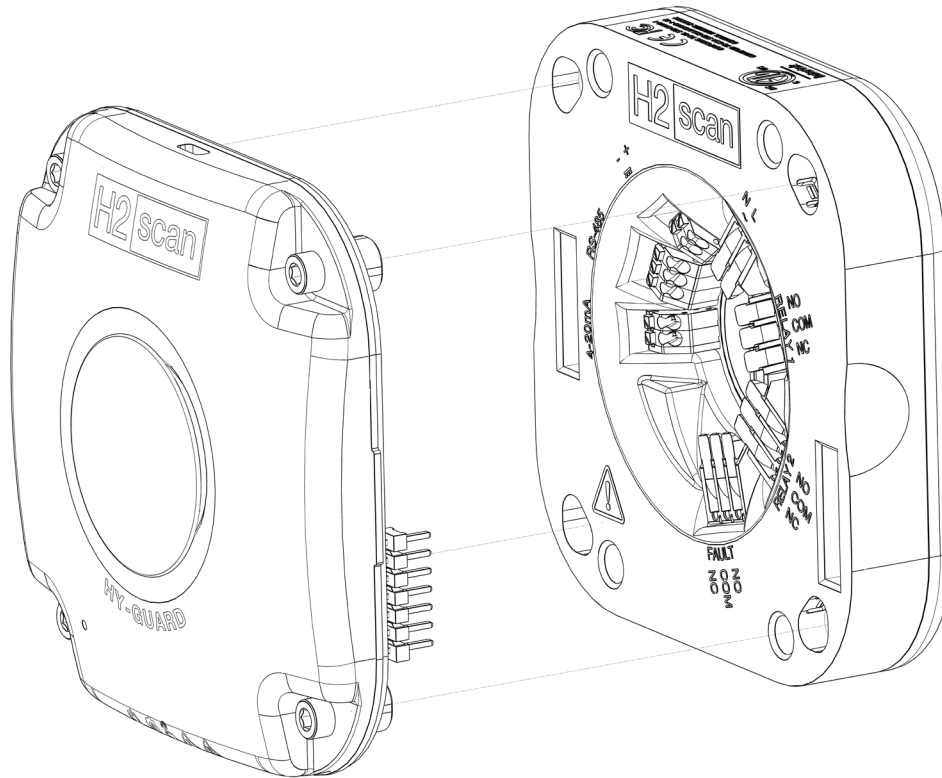

Figure 4: Connect Sensor Assembly to Power Board Assembly
2. Secure the Sensor Assembly to the Power Board Assembly (see Figure 4).